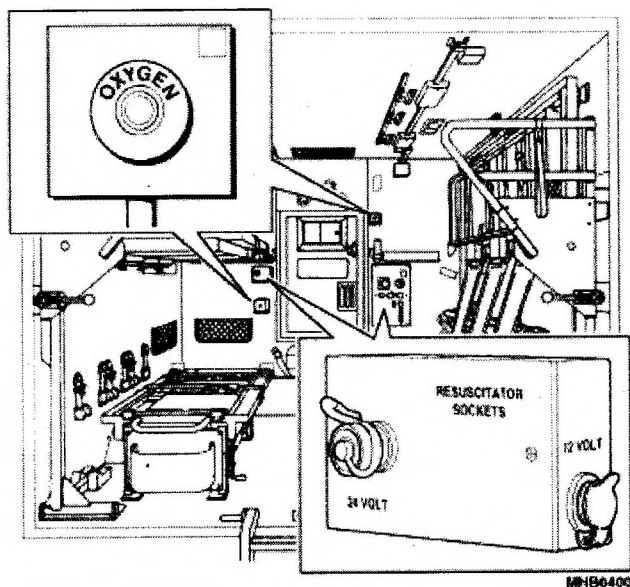

Fig 13 Resuscitator sockets
20 There are two resuscitator socket outlets, one 12 V (Fig 13) and one 24 V incorporated into the panel.
20.1 As well as the two resuscitator sockets (Fig 13) on the distribution panel there are two more located on the left-hand side of the walk-through door, mounted on a box. These are a 24 V socket and a 12 V socket.